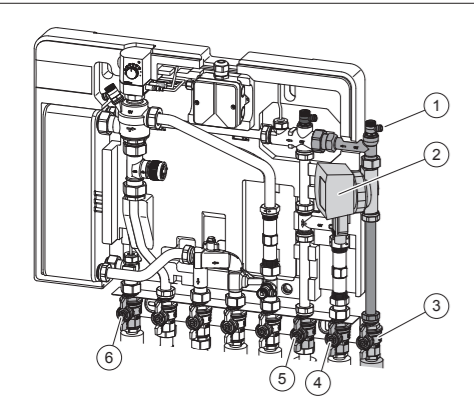

Fig. 2: Installation of the high-efficiency pump
1. Close the ball valves (3), (4), (5) and (6) (see Fig. 2).
2. Open the venting valve to depressurise the section of the system (see Fig. 2 (1)).
**i** The arrow on the body indicates the flow direction. Install the pump in such a way that the arrows points to the venting valve (see Fig. 2 (1)).